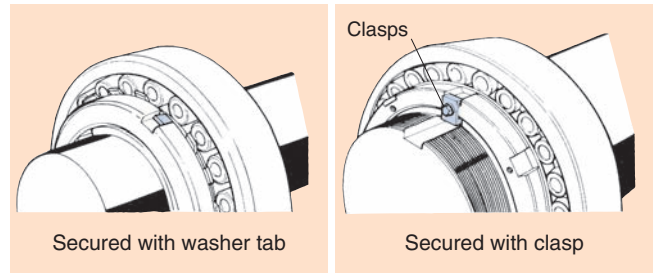

Fig. 33
(5) Remove the locknut and hydraulic nut, set a washer that suits the installation shaft, fasten the shaft nut and bend the washer tab into the notch in the nut to secure it. For large nuts, use a clasp to secure the nut (see Fig. 33).